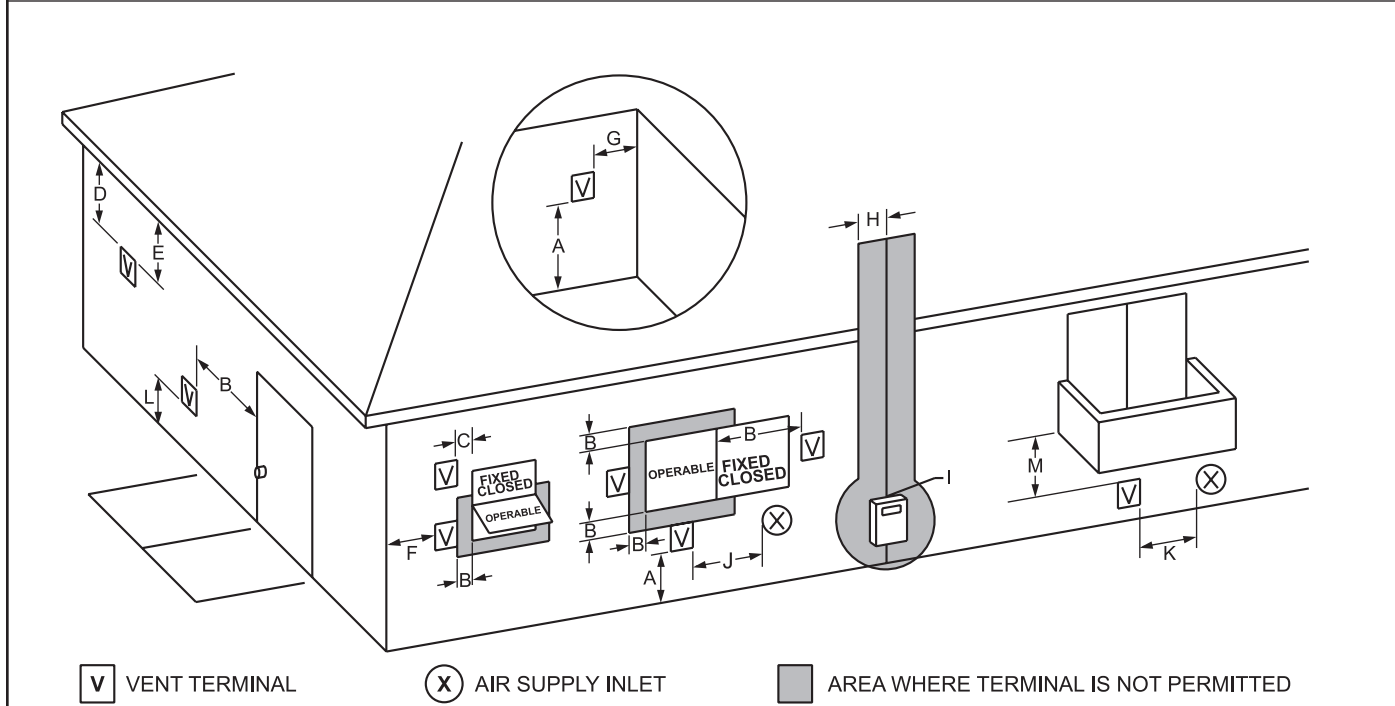

Figure 4. Combustion Air and Vent Through Side Wall.
1. Figure 4 shows the requirements for mechanical vent terminal clearances for the U.S. and Canada.
4. If the Mighty Therm2 is side-wall vented to the same wall, locate the vent terminal at least 3 feet (0.9m) horizontally from the combustion air terminal, and locate the vent terminal at least 1 foot (0.3m) above the combustion air terminal (see Figure 4).